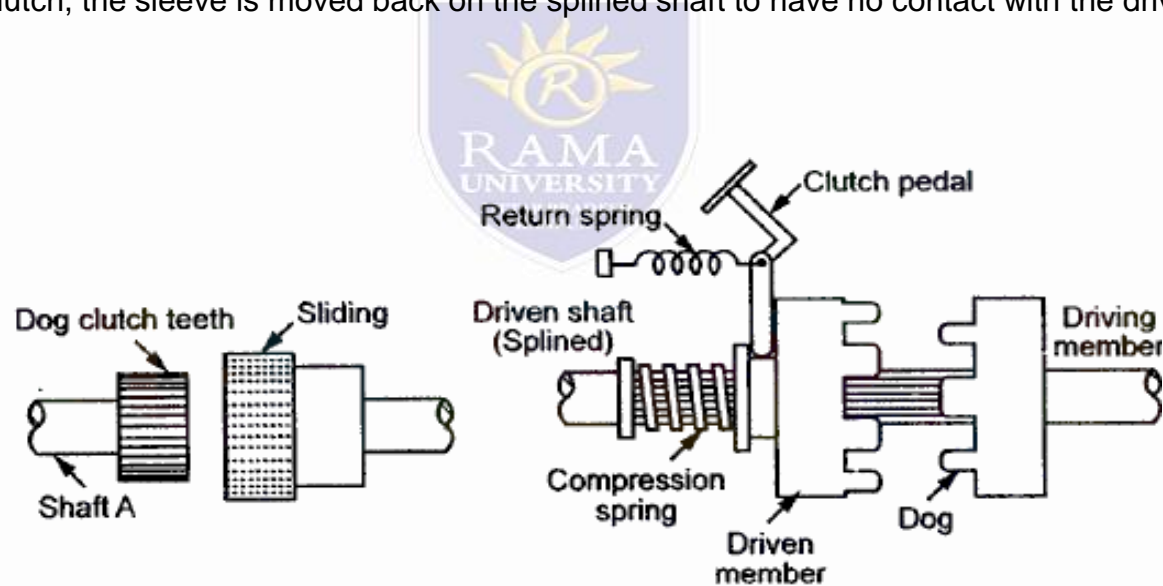

Figure 3.11 Dog and spline clutch
- Figure 3.11 shows this arrangement, when the sleeve is made to slide on the splined shaft, the larger internal splines match with the dog clutch teeth of the driven shaft. Thus, the sleeve turns the splined shaft with the driven shaft.